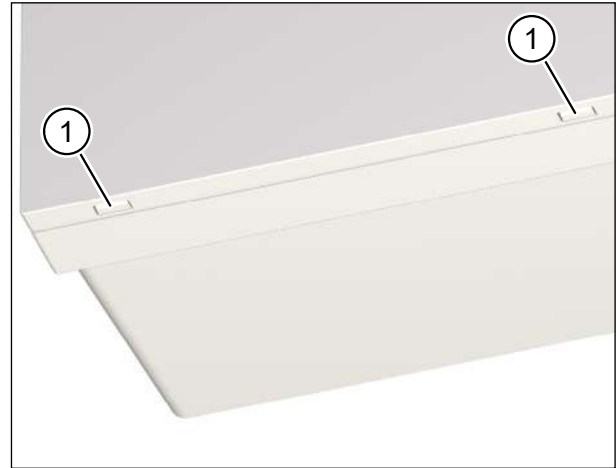

Fig. 15: Removing the unit cover from the ventilation unit
- ▶ Using both thumbs, press the two latches (item 1 in Fig. 15) on the bottom of the ventilation unit. The unit cover will come away.